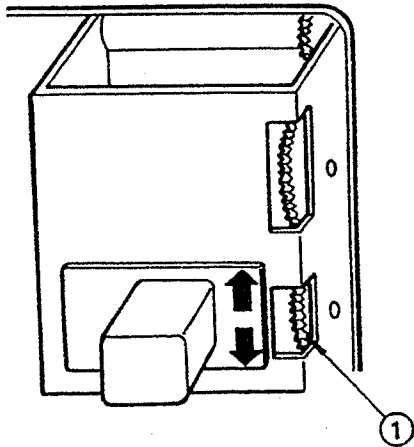
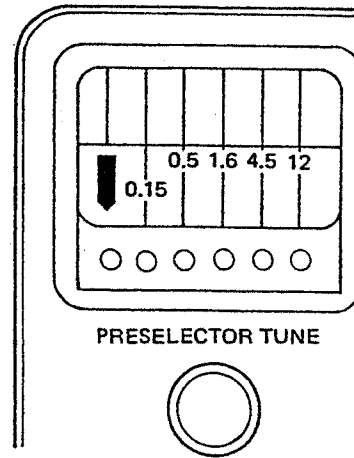

Figure 6
Figure 7
| CALIBRATION | Hold PRESELECTOR TUNE knob with your hand, and set the gear ①, shown in Figure 6, so that the Preselector Dial is as shown in Figure 7. |